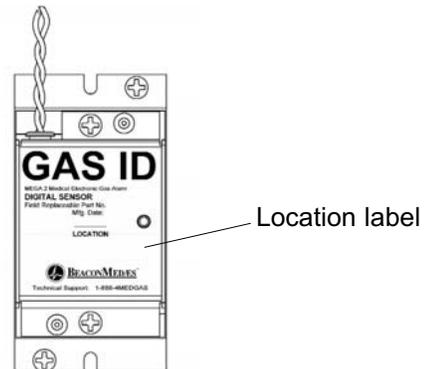

Figure 39: Sensor Module Location Label
1. Mark location monitored by sensor in space provided on sensor label (Figure 39).